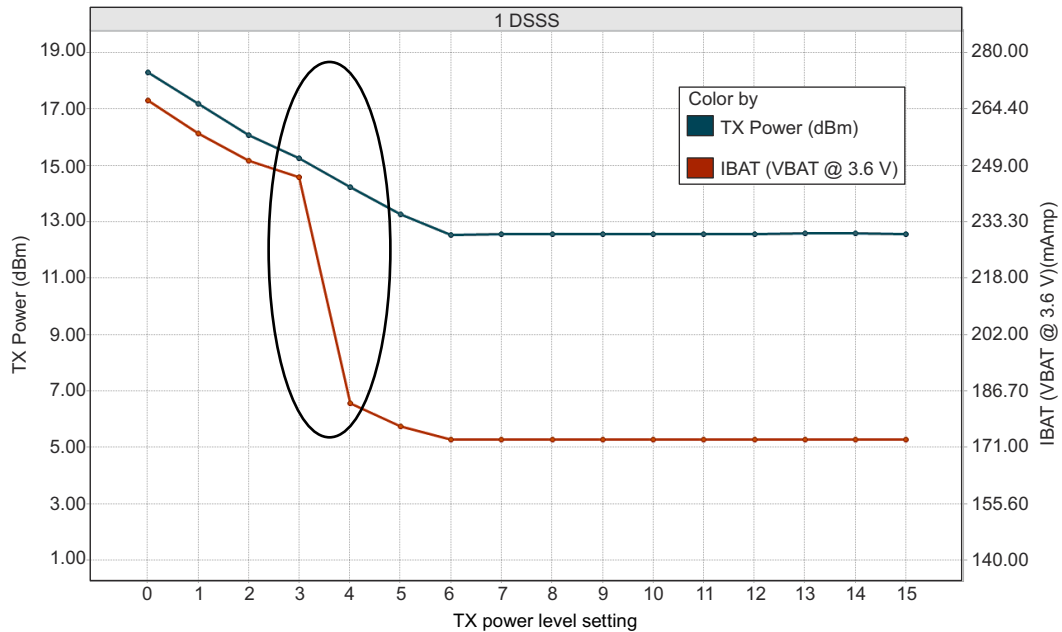
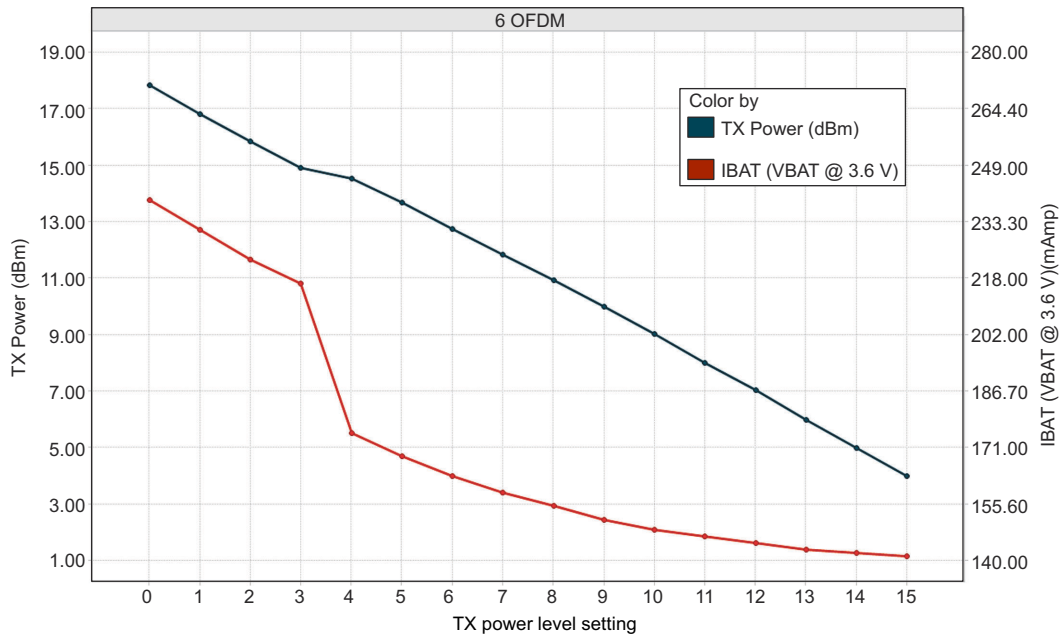
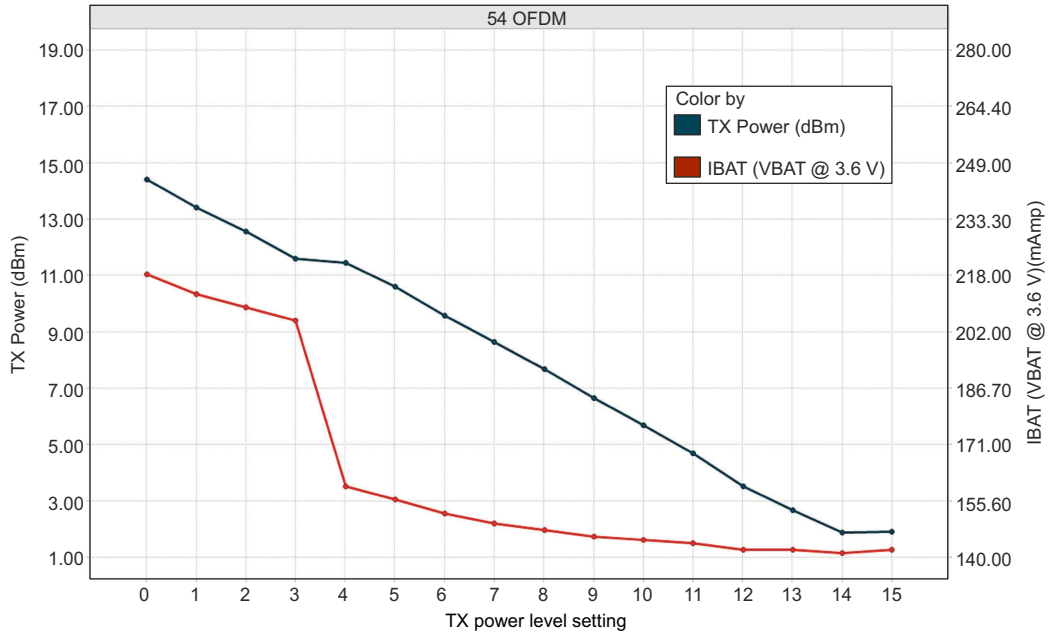

Figure 7-1. TX Power and IBAT vs TX Power Level Settings (1 DSSS)
Figure 7-2. TX Power and IBAT vs TX Power Level Settings (6 OFDM)
Figure 7-3. TX Power and IBAT vs TX Power Level Settings (54 OFDM)
- (1) TX power level = 0 implies maximum power (see Figure 7-1, Figure 7-2, and Figure 7-3). TX power level = 4 implies output power backed off approximately 4 dB.
- (2) LPDS current does not include the external serial flash. The LPDS number of reported is with retention of 256KB of MCU SRAM. The CC3230x device can be configured to retain 0KB, 64KB, 128KB, 192KB, or 256KB of SRAM in LPDS. Each 64-KB block of MCU retained SRAM increases LPDS current by 4 μA.
- (3) DTIM = 1
- (4) The complete calibration can take up to 17 mJ of energy from the battery over a time of 24 ms. In default mode, calibration is performed sparingly, and typically occurs when re-enabling the NWP and when the temperature has changed by more than 20°C. There are two additional calibration modes that may be used to reduced or completely eliminate the calibration event. For further details, see CC31xx, CC32xx SimpleLink™ Wi-Fi® and IoT Network Processor Programmer's Guide.
- (5) The CC3230x system is a constant power-source system. The active current numbers scale based on the V_{BAT} voltage supplied.
- (6) Typical numbers assume a VSWR of 1.5:1.
- (1) TX power level = 0 implies maximum power (see Figure 7-1, Figure 7-2, and Figure 7-3). TX power level = 4 implies output power backed off approximately 4dB.
- (2) LPDS current does not include the external serial flash. The LPDS number of reported is with a retention of 256KB of MCU SRAM. The CC3230x device can be configured to retain 0KB, 64KB, 128KB, 192KB, or 256KB of SRAM in LPDS. Each 64-KB block of MCU retained SRAM increases LPDS current by 4µA.
- (4) The complete calibration can take up to 17 mJ of energy from the battery over a period of 24 ms. Calibration is performed sparingly, typically when coming out of HIBERNATE and only if the temperature has changed by more than 20°C. The calibration event can be controlled by a configuration file in the serial flash.
- (5) Typical numbers assume a VSWR of 1.5:1.
Figure 7-1, Figure 7-2, and Figure 7-3 show TX power and IBAT versus TX power level settings for the CC3230S device at modulations of 1 DSSS, 6 OFDM, and 54 OFDM, respectively. For the CC3230SF device, the IBAT current has an increase of approximately 10mA to 15mA depending on the transmitted rate. The TX power level will remain the same.
In Figure 7-1, the area enclosed in the circle represents a significant reduction in current during the transition from TX power level 3 to level 4. In the case of lower range requirements (14dBm output power), TI recommends using TX power level 4 to reduce the current.